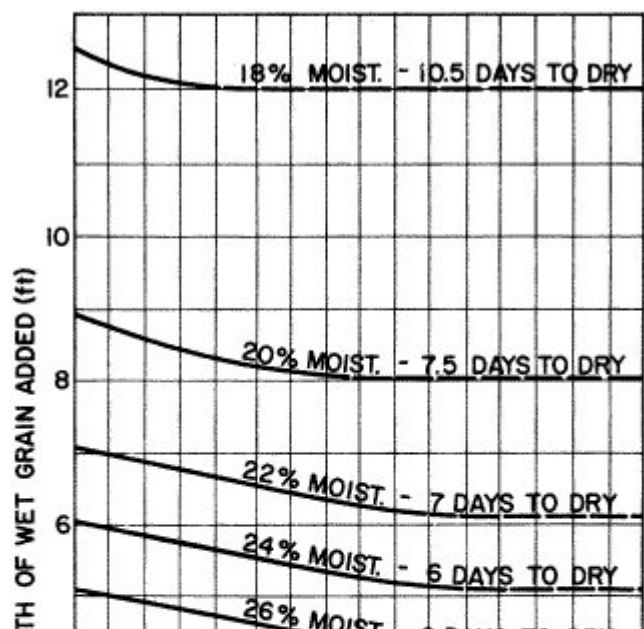

Figure 2
- From Figure 2 (with $M_f = 28$ percent and zero dried grain depth), fill depth is 4.2 feet and approximate drying time is 5-1/2 days (Figure 8).
- Dried depth is 4.2 feet (from Table 2, 5.5 feet \times 0.76 = 4.2 feet). Corn now harvested tests 26 percent. From Figure 2 (with $M_f = 26$ percent and 4.2 feet dried grain depth), fill depth is 4.7 feet and approximate drying time is six days (Figure 8).
- Second fill shrinks to 4.8 feet (6.1 \times 0.79). The depth of dried corn is 4.2 + 4.8 = 9 feet. Corn now harvested tests 20 percent. From Figure 2 (with $M_f = 20$ percent and 9 feet dried grain depth), next fill depth is 8.0 feet and approximate drying time is 7-1/2 days.